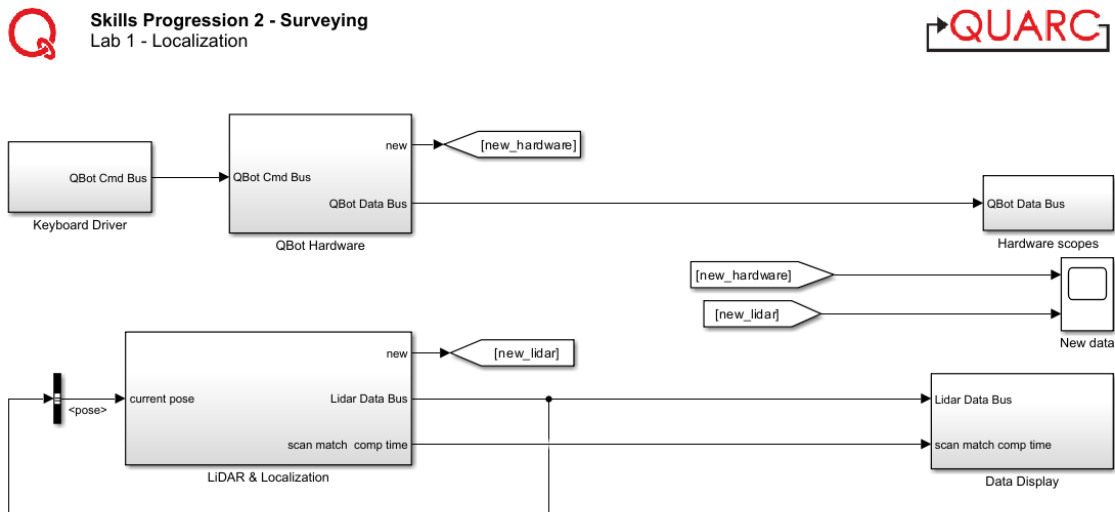

Figure 1: Localization Simulink Model
3. Open the Simulink Model localization.slx, as shown in Figure 1. Loading the Simulink model also triggers the setup script for the Quanser Interactive Labs virtual environment. When the script is run successfully, it spawns the QBot and other elements within the virtual environment. Open the camera menu by pressing the 3 horizontal lines and set the Lock camera location to the “On” position.